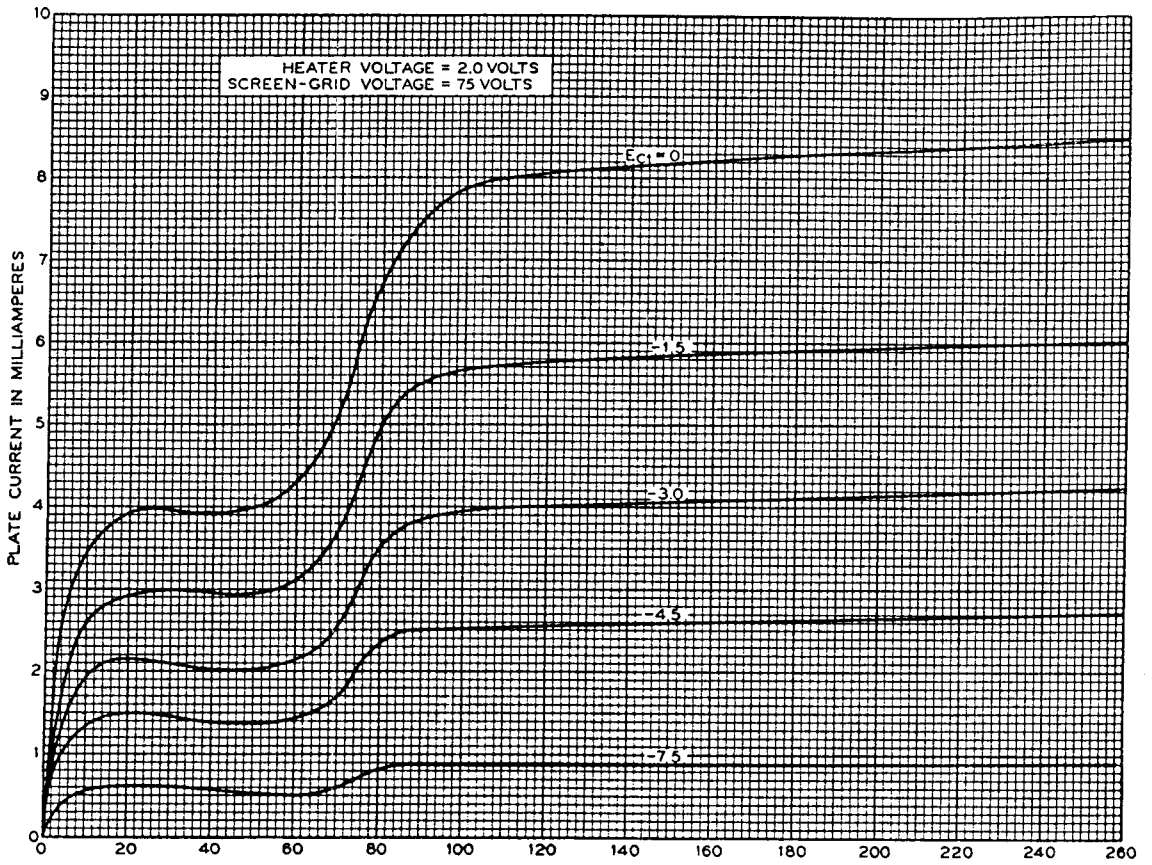

FIG. 3
**Characteristics**—Plate current and screen-grid current characteristics of a typical 283A tube are shown in Figures 3 and 4, respectively, as functions of plate voltage for a screen-grid voltage of 75 volts and several values of control-grid voltage. A typical plate current characteristic as a function of control-grid voltage is shown in Figure 5 for a plate voltage of 180 volts and a screen-grid voltage of 75 volts. The corresponding transconductance characteristic is given in Figure 6. For other plate voltages between 135 and 250 volts, the transconductance of a typical tube, for values above 5 micromhos, does not differ by more than  $\pm 2$  per cent from its value at 180 volts. Amplification factor and plate resistance characteristics as functions of control-grid voltage are shown in Figures 7 and 8, respectively for a screen-grid voltage of 75 volts and several values of plate voltage.